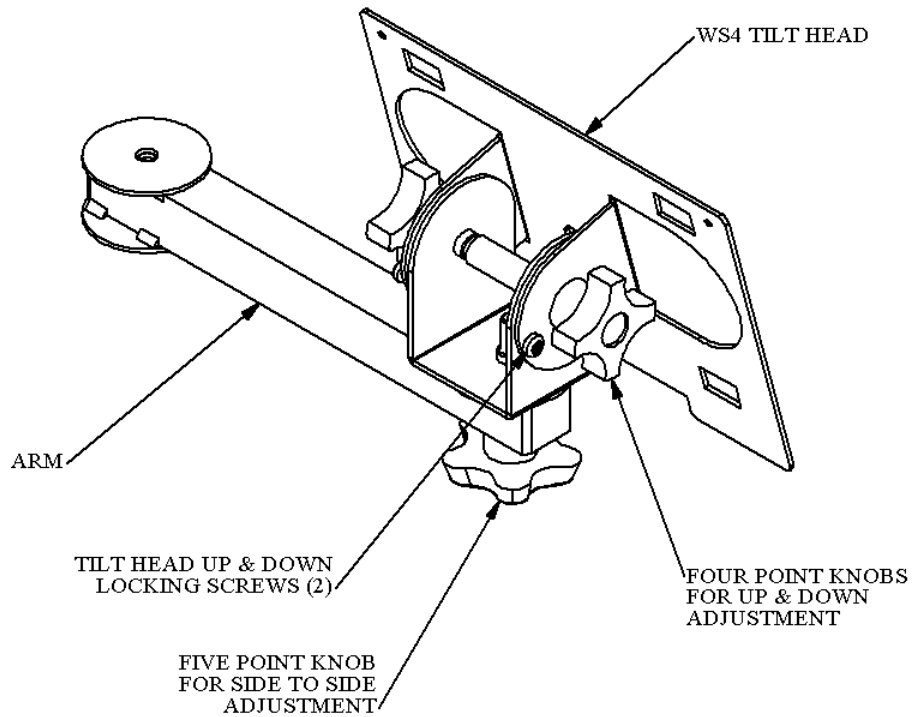

Figure 4 - An 8" arm and a WS4 tilt head
3. Install the tilt head on the end of the arm (See Figure 4).